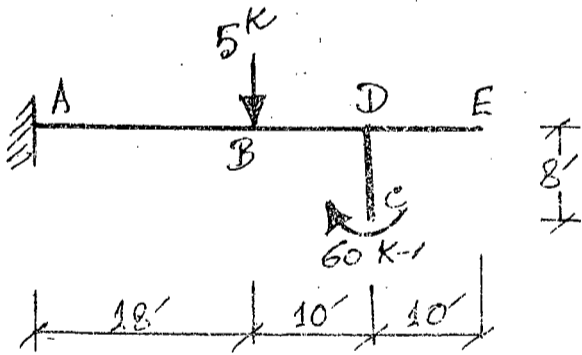

Fig. 10
13. Find the rotation at end E of the structure loaded as shown in Fig. 10. Given I = 72 in4 and E = 30000 ksi. (28)